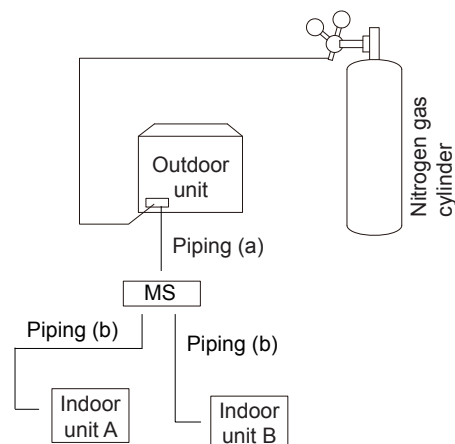

Fig. 5-16
b) Braze the refrigerant piping and branch joints between outdoor unit(s) and MS box (piping (a) in Fig. 5-16), but not connect piping (a) to MS box.
d) Braze the refrigerant piping and branch joints between MS and indoor units (piping (b) in Figure 5.16), but not connect piping (b) to MS box.